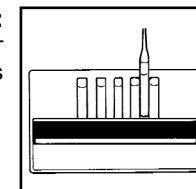

Figure 5
b. **High Range Comparator (fig. 5):**